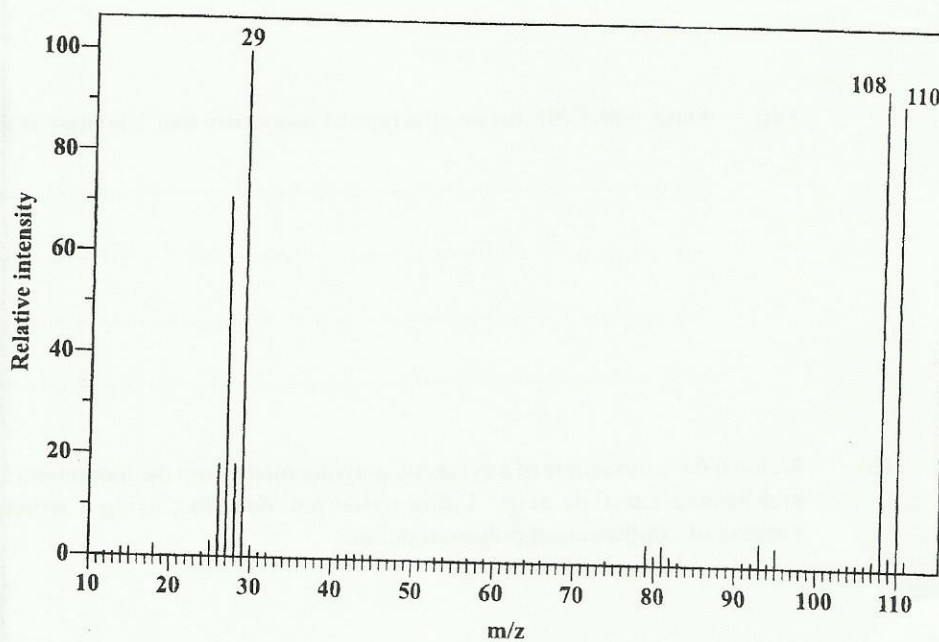

Figure 4. Mass spectrum of Haloalkane C
5. (a) Mass spectrometry is one of the most widely used instrumental techniques for determining the structures of organic compounds. Figure 4 shows the mass spectrum of a haloalkane, C.